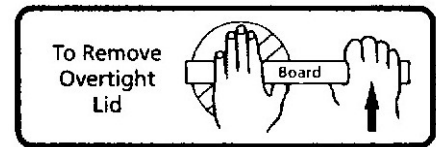

Figure 5- Use a pry bar or board as shown to remove or tighten the trap cover
- If pump is not in a flooded suction system, unscrew and remove trap cover (See Figure 5); fill trap and pump with water.
2. Remove trap cover and use low pressure air to blow accumulated water from the piping system. Use a pry bar or board to remove trap covers that have been overtightened or have taken a set and cannot be removed by hand. Lugs have been provided on the trap lid to use lever or pry bar for loosening (see Figure 5).